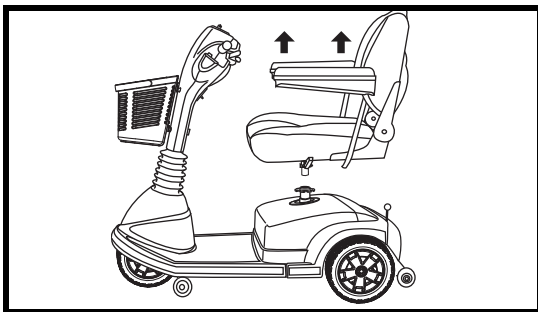

Figure 16. Seat Removal
2. Lift the seat straight up and off the scooter. See figure 16.